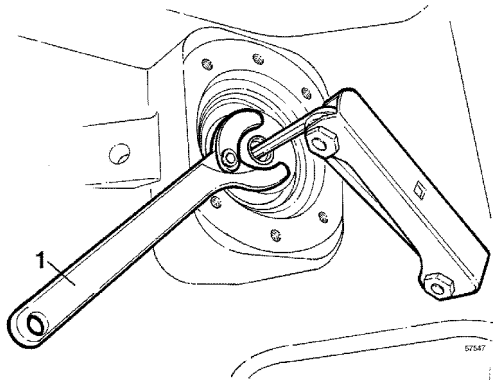

Figure 7
26. Rotate the pinion shaft and place the differential lock drive flange in maximum engagement by screwing the diaphragm sleeve counter-clockwise until the differential lock drive flange is in maximum engagement, see Figure 7.